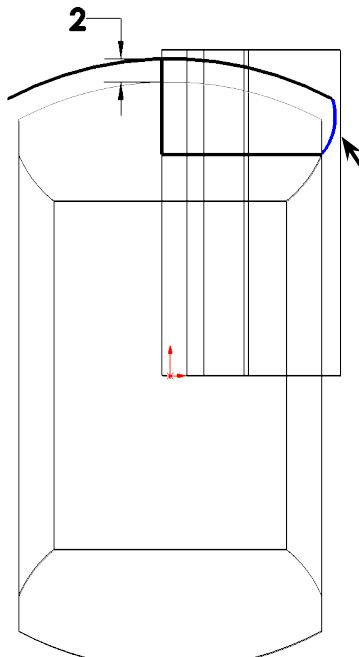

Fig. 22
Step 9. Sketch arc with start endpoints at left endpoint of line1, right endpoint at endpoint of offset arc and radius to outside tire, Fig. 22.